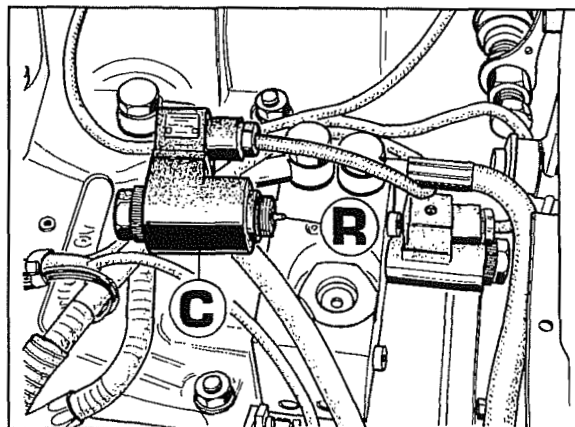

Fig. 15
- a. Reinstall the coil **C** Fig.15 on the solenoid.
- d. With the lift lowered, turn the lift control lever to "Raise" (hold the safety button down). Check to make sure the solenoid tip **R** (Fig.15) carries out its stroke. If it does, the solenoid is OK.